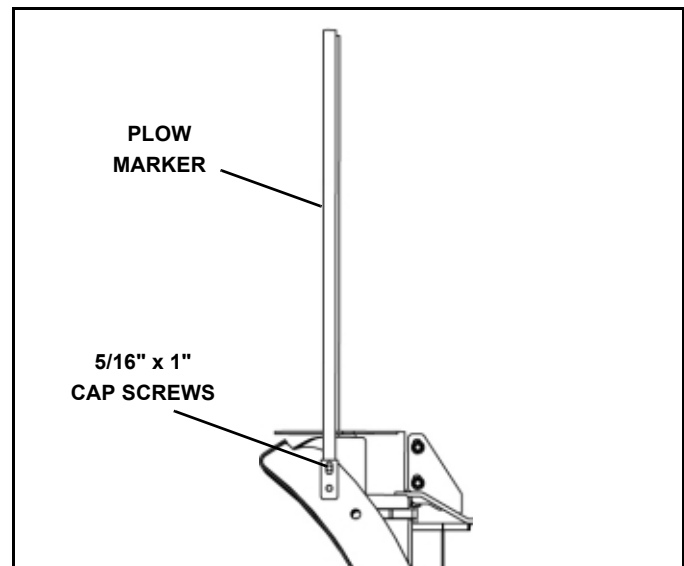

Figure 1-7
12. Attach a plow marker to each wing as shown and secure using 5/16" x 1" cap screws and locknuts. (See Figure 1-7.)